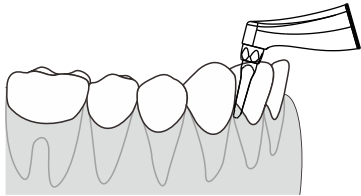

Figure 10 Periodontal sandblasting operation
- When using the device to perform normal periodontal scaling, it is recommended to use the nozzle to remove the plaque from the periodontal pocket of 1–3mm below the gingival, and perform up and down lifting and scaling during use. (See Figure 10)